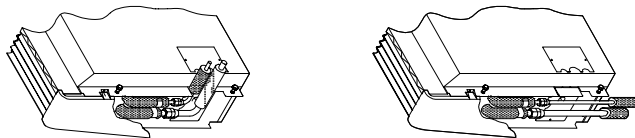

Fig. 4
- (1) The unit should be at the reasonable level and pitched toward the drain, so as to ensure proper drainage.
- (2) Connect the soft hard vinyl chloride pipe to the coupling, see fig.4
- (3) Drainage is done by gravity effect, therefore the piping outside the unit should have a slope downwards.
- (2) The pipes can be bend around the rear as shown in figure 4.
- (3) Brazing should be performed with a constant purge of nitrogen through the piping. This is to keep inside of tubing clean.
- (4) Insulate suction and liquid line separately to prevent sweating .